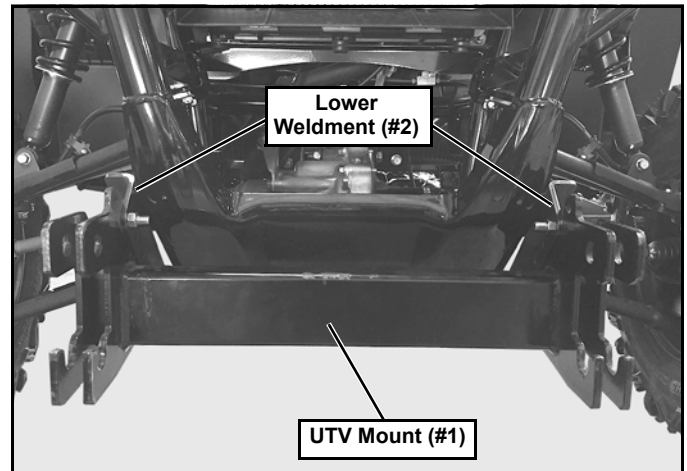

Figure 5
- Position the UTV Mount (#1) on the machine. The UTV Mount (#1) goes to the outside of the Lower Weldment (#2). (See Figure 5.)